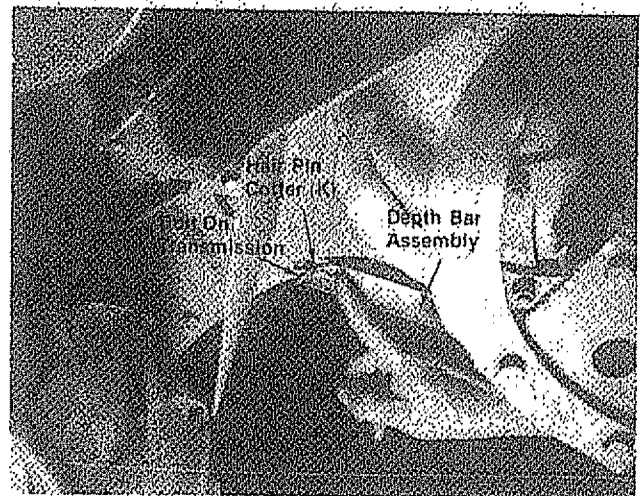

FIGURE 7.
- E. Attach front end of depth bar assembly to transmission housing. Slip depth bar over bolt and secure with hair pin cotter (K). See figure 7.